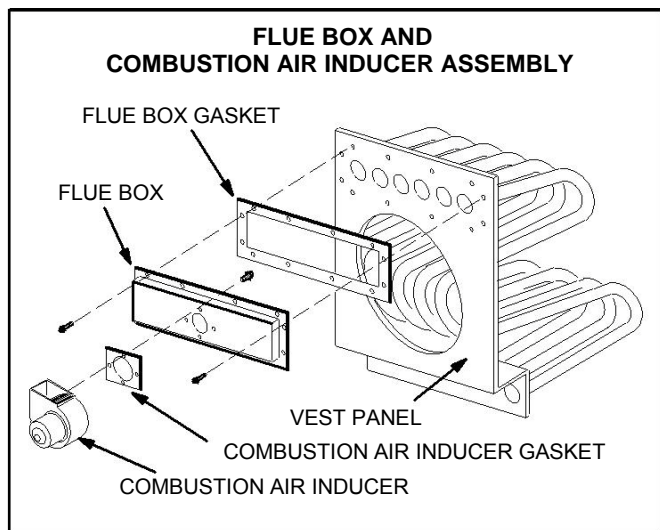

FIGURE 1
- 3 – Before making an electrical or gas connections, remove the securing screws on the flue box/combustion air inducer. See figure 1.